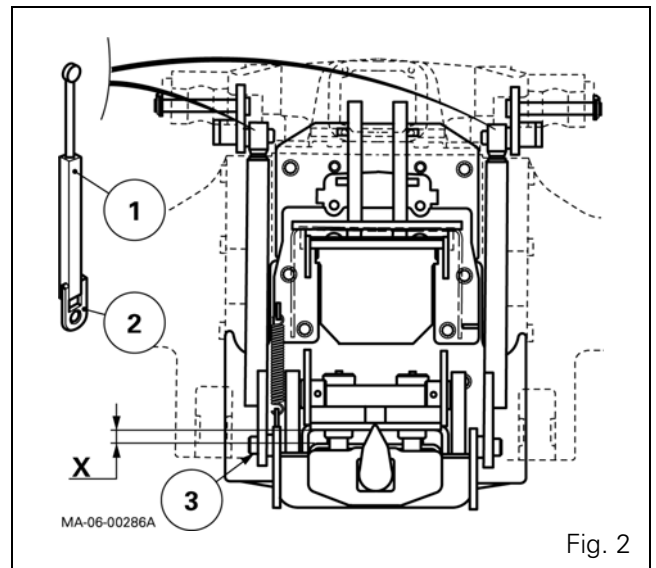

Fig. 2
4. Compress the lower part of the hook along the tractor axis "F" (Fig. 1) using a trolley jack, in order to obtain a dimension X of 6 to 14 mm between the top of the main bracket and the top of the mobile plate (Fig. 2).
5. Adjust the length of the rods by turning their sliding square section (1) in order to engage the clevises (2) on the pins (3) of the bracket (Fig. 2).